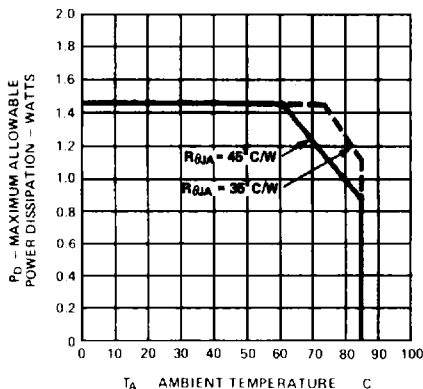

Figure 2. Maximum Allowable Power Dissipation vs. Temperature
2. The device should be derated linearly above 60°C at 22.2 mW/°C. This derating is based on a device mounted in a socket having a thermal resistance from case to ambient at 25°C/W per device. See Figure 2 for power deratings based on a lower thermal resistance.
The HDSP-2450 series displays are available in standard ceramic dual-in-line packages. They are designed for plugging into sockets or soldering into PC boards. The packages may be horizontally or vertically stacked for character arrays of any desired size. HDSP-2450 series displays utilize a high output current IC to provide excellent readability in bright ambient lighting. Full power operation ($V_{CC} = 5.25V$, $V_B = 2.4V$, $V_{COL} = 3.5V$) with worst case thermal resistance from IC junction to ambient of $45^\circ C/watt/device$ is possible up to ambient temperature of $60^\circ C$. For operation above $60^\circ C$, the maximum device dissipation should be derated linearly at $22.2 mW/^\circ C$ (see Figure 2). With an improved thermal design, operation at higher ambient temperatures without derating is possible.